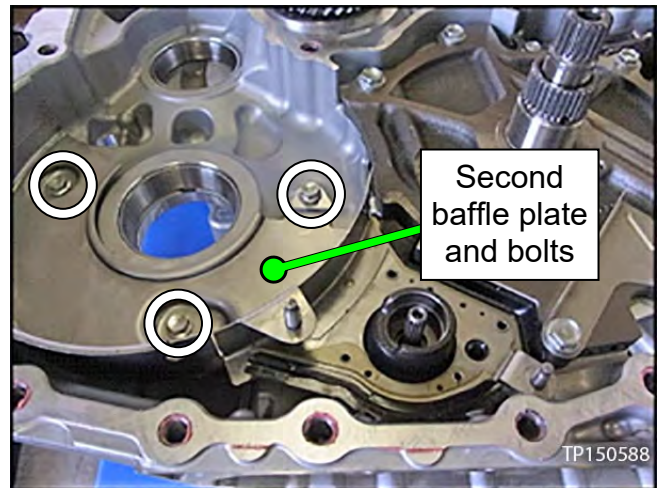

Figure 43
5. Remove the three (3) bolts, and then remove the second baffle plate (see Figure 43).